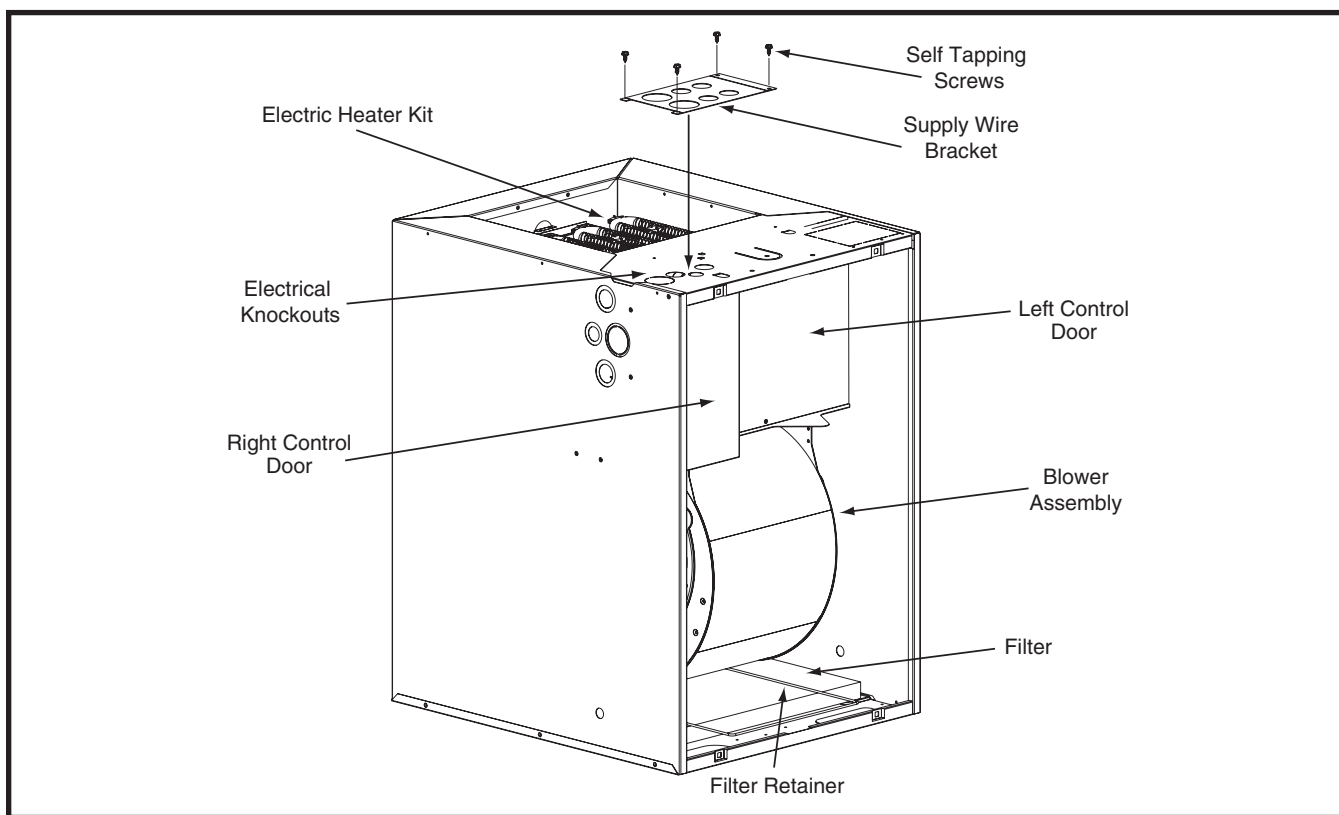

Figure 19. E7 Supply Wire Bracket
3. For Supply Service Wire installations through the top or bottom of the appliance. Add bracket for metal thickness increase for supply wire connections. See Figure 19.